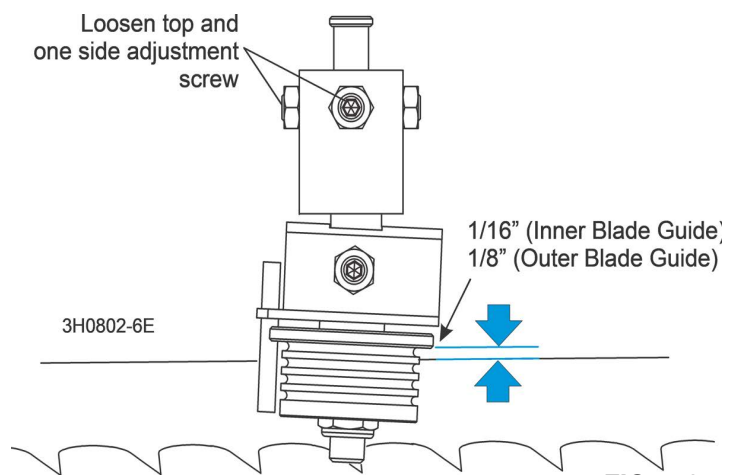

FIG. 5-8
- Loosen the top and one side screw shown. See FIG. 5-8.